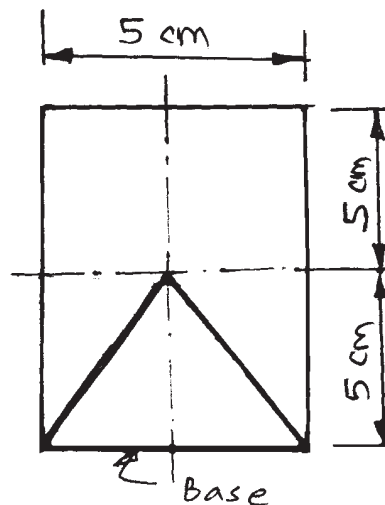

Fig. No. 3
- b) From a rectangular plate, 5 cm \times 10 cm, a triangular portion is cut as shown in Fig. No. 3. Determine the moment of inertia of the remainder about its base.